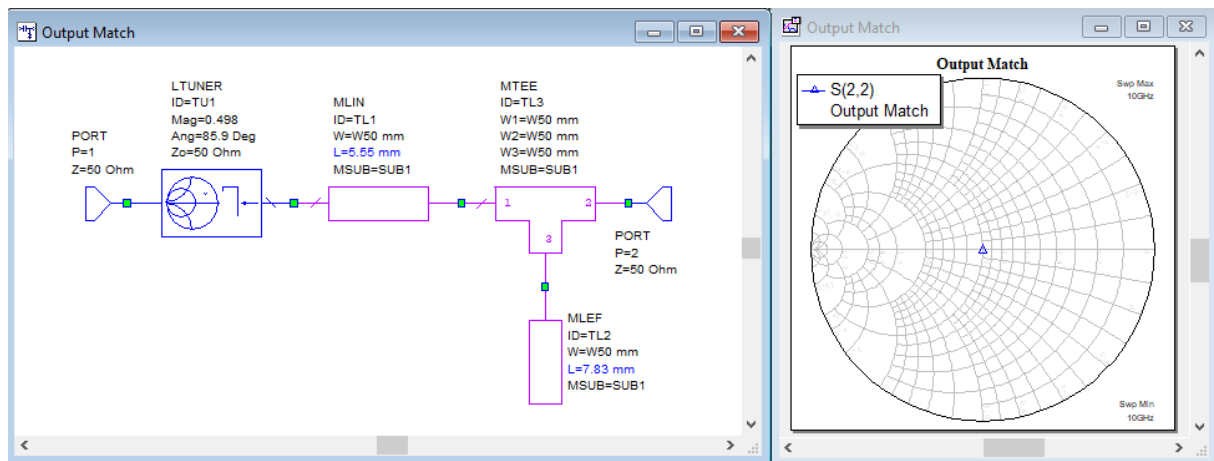

Fig. 7 Output matching circuit with discontinuity and resulting reflection coefficient.
- The output matching circuit can be designed in a similar way. The resulting structure can be seen in Fig. 7.